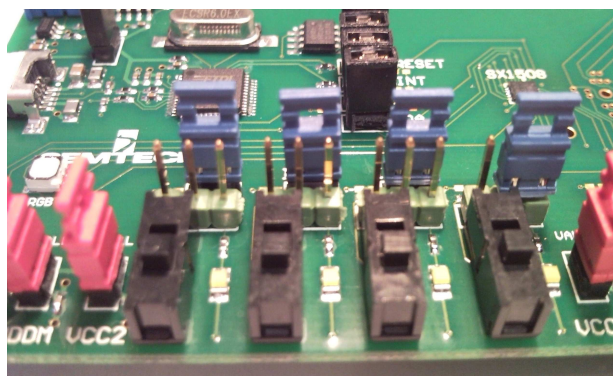

Figure 12: SX1508EVK Color Mixing (RGB) Demo Jumpers Configuration (upper right position)
- ⇒ Jumper on **upper** right position (Cf. *Figure 12*, IO7=5 only): IO is connected to a 5V/15mA RGB LED structure to illustrate color mixing applications (IO7=R, IO6=G, IO5=B).